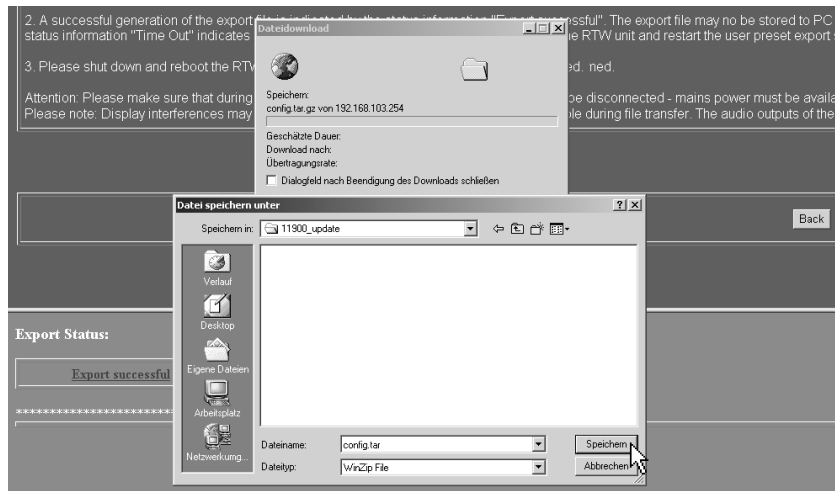

Fig. 8-15: Choose the folder for saving the export file
7. The save file as ("Datei speichern unter") dialog box is shown. Choose the folder (e. g. C:\11900_Update) for saving the export file config.tar.gz (see Fig. 8-15).